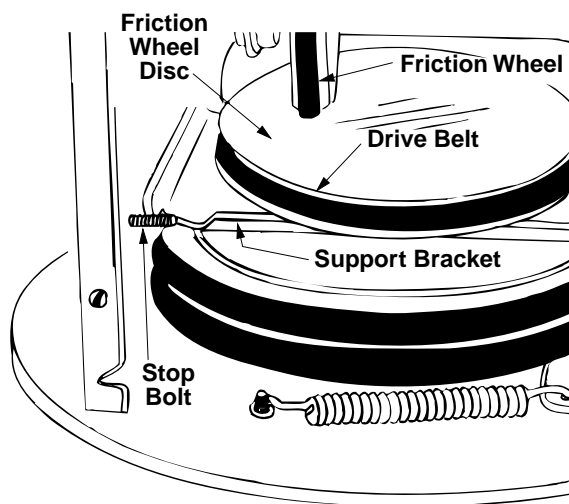

Figure 32
7. Back out the stop bolt to allow the belts to slip between the bolt and auger pulley. See Figure 32.
3. Back out the stop bolt until the support bracket rests on the auger pulley. See Figure 32.
**NOTE:** The support bracket must rest on the stop bolt after the new belt has been assembled. See Figure 32.